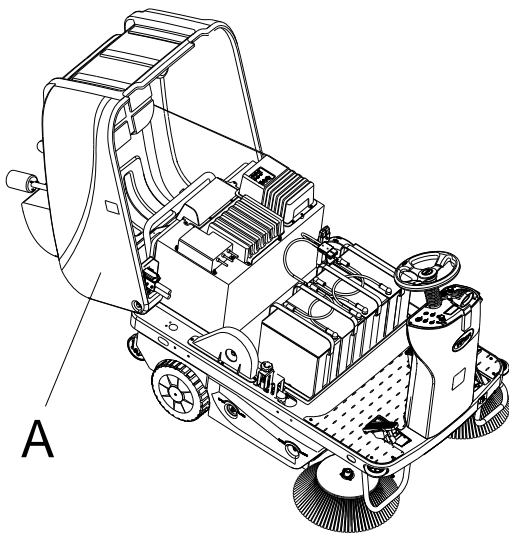

Figure 9
2. open the cover (A, Figure 9) carefully.